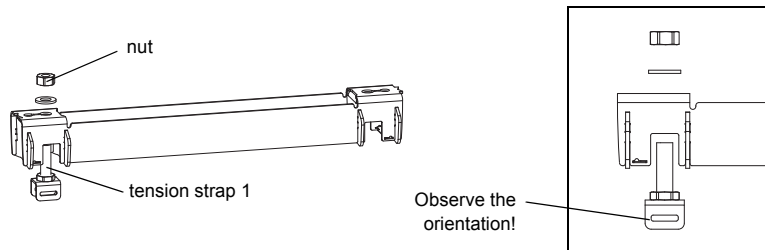

Fig. 8.16: Rail with tension strap clamp
- Place one tension strap clamp in the rail (see tension strap clamp 1 in Fig. 8.16). Observe the orientation of the tension strap clamp.